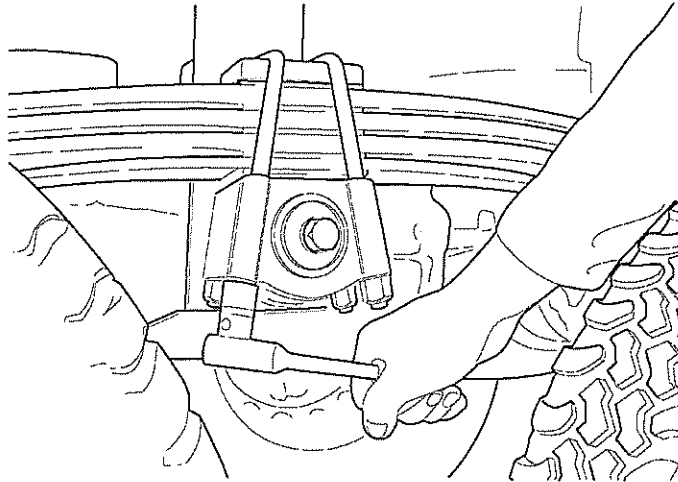

Fig 3 Spring bracket
4.4 Remove spring U-bolts (see Fig 3).